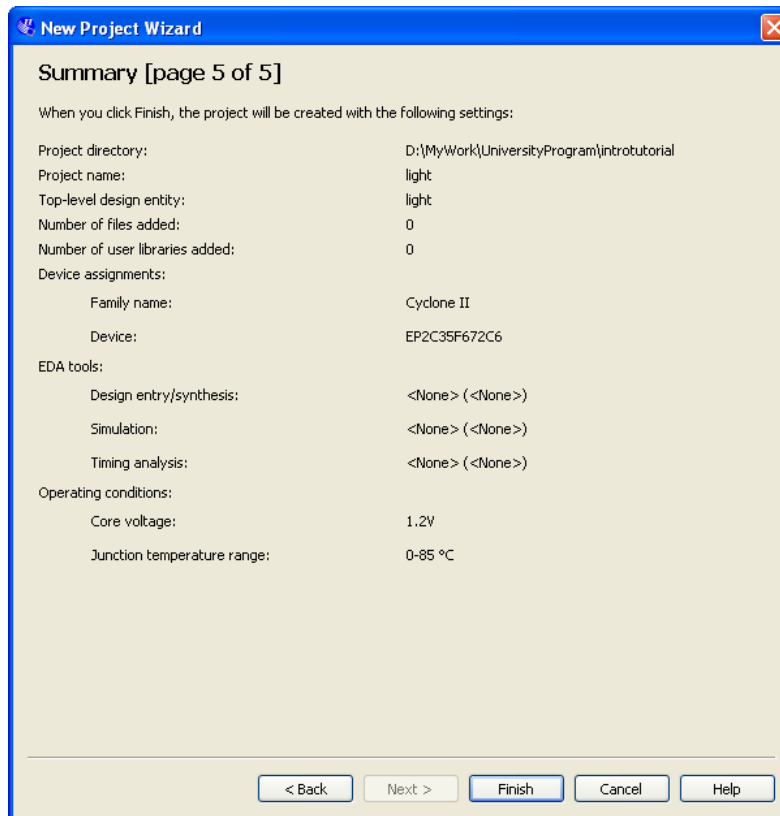

Figure 9. Example summary of a DE2 board project settings.
6. A summary of the chosen settings appears in the screen shown in Figure 9. Press **Finish**, which returns to the